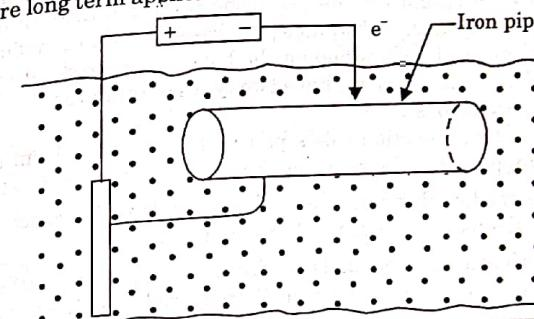

Fig. 3.17.3. Impressed current cathodic protection.
b. **Impressed current cathodic protection** : This method known as electrolytic method of cathodic protection, the object to be protected is made cathode by connecting it to negative terminal of DC source. The positive terminal is connected to an insoluble anode like graphite, scrap iron or platinum. The objective is to apply the current from an external source (insoluble anode) in the opposite direction to that of the corrosion current. The insoluble anode is buried in the soil or in the conducting medium adjacent to the metal which is to be protected (Fig. 3.17.3.). These are placed in such a manner that a uniform potential is obtained over the entire metal surface. The electrons flow to the metal structure